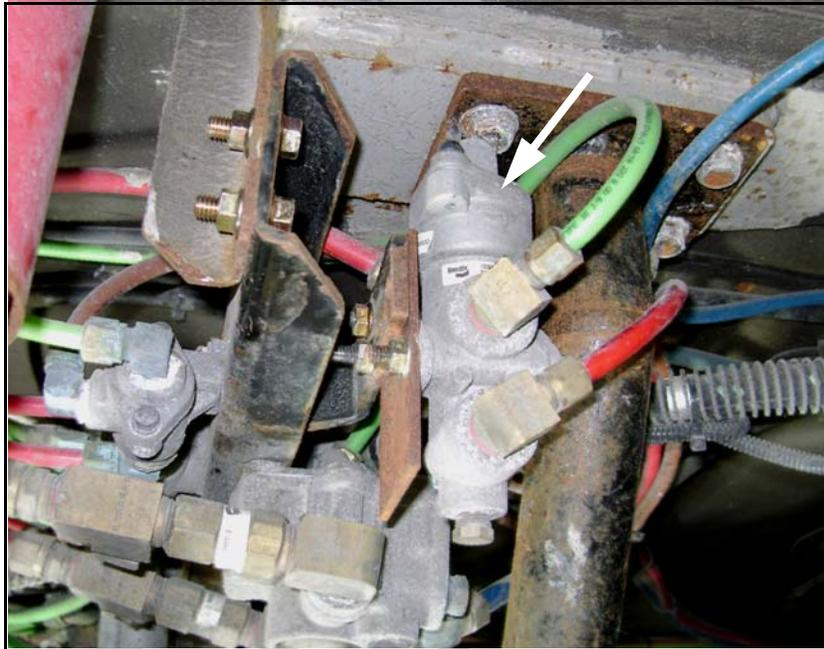

Figure 5. Protection valve (gladhands equipped).
9. Locate and remove the protection valve (refer to Figure 5).